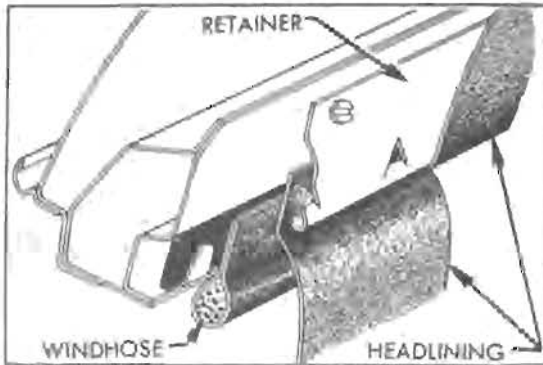

Figure 13-38—Headlining Retainer on Roof Rail
8. Starting at the front corners, disengage the headlining from its retainers along both side roof rails. By loosening retainer screws along both side roof rails progressively as headlining is loosened, it is easier to disengage the headlining from the retainer. See figure 13-38.
6. Tighten retainers to roof side rails then carefully tuck the edges of headlining up between the retainers and the windhose, using Headlining Insertor J 2772. See figures 13-38 and 13-39.